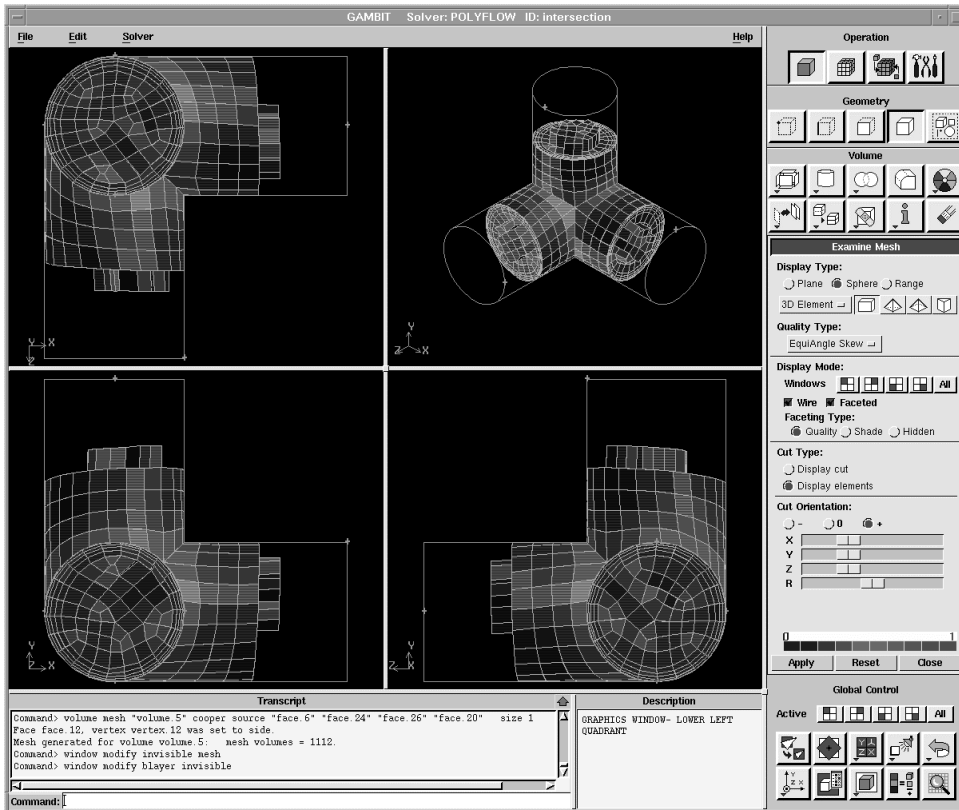

Figure 3-20: Spherical cut centered in the x , y , and z directions
- f) Move the **Y** and **Z** slider boxes to center the spherical cut in the *y* and *z* directions in the graphics window. The graphics window display is shown in Figure 3-20.